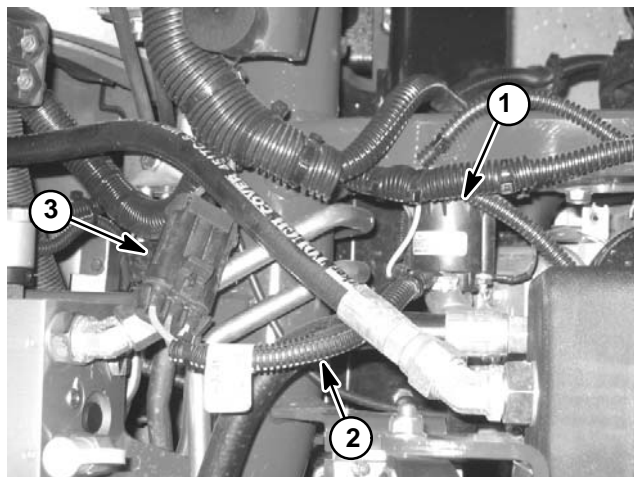

Figure 37
Greensmaster 3300 machines (gasoline engine) use only two (2) of the harness fusible links. The fusible link harness on Greensmaster 3300 machines is connected to the starter solenoid (Fig. 37).